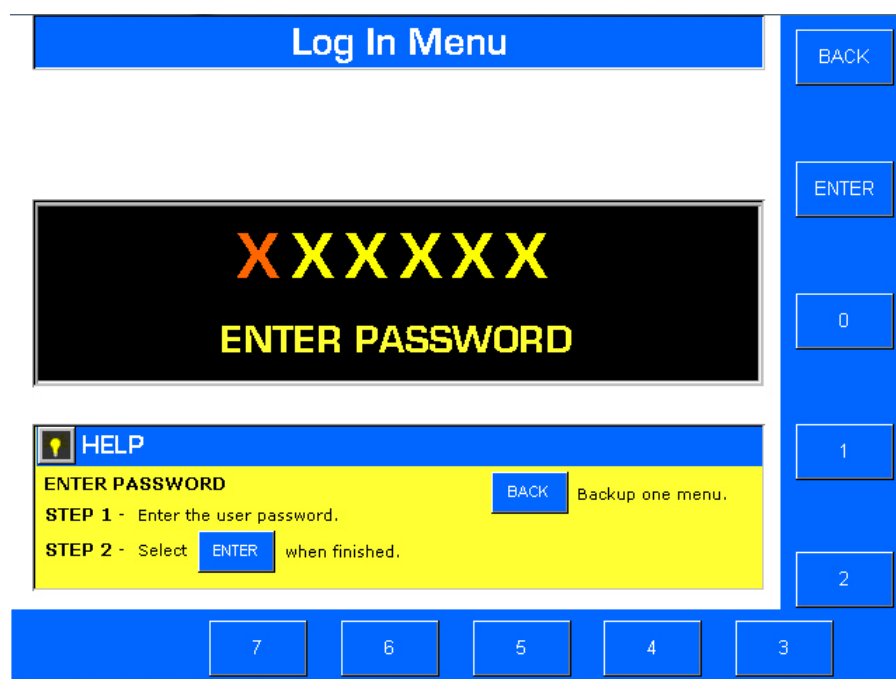

Figure 3-3. LOG IN MENU.
1. On the Main Menu, depress LOG IN. The Log In Menu will appear (refer to Figure 3-3).